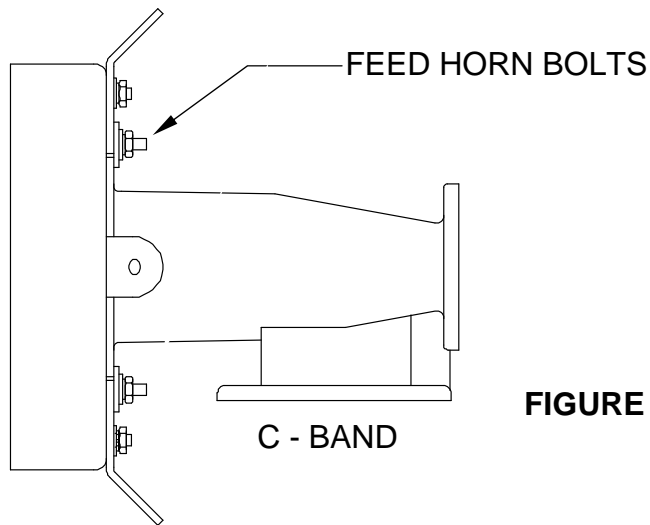

FIGURE 9.
2. **POLARITY ADJUSTMENT** - On C-band and ku-band feed systems, polarity is adjusted by loosening the feed horn bolts (see figures 9 and 10) and rotating the OMT or feed horn 90 degrees, then retighten the bolts.